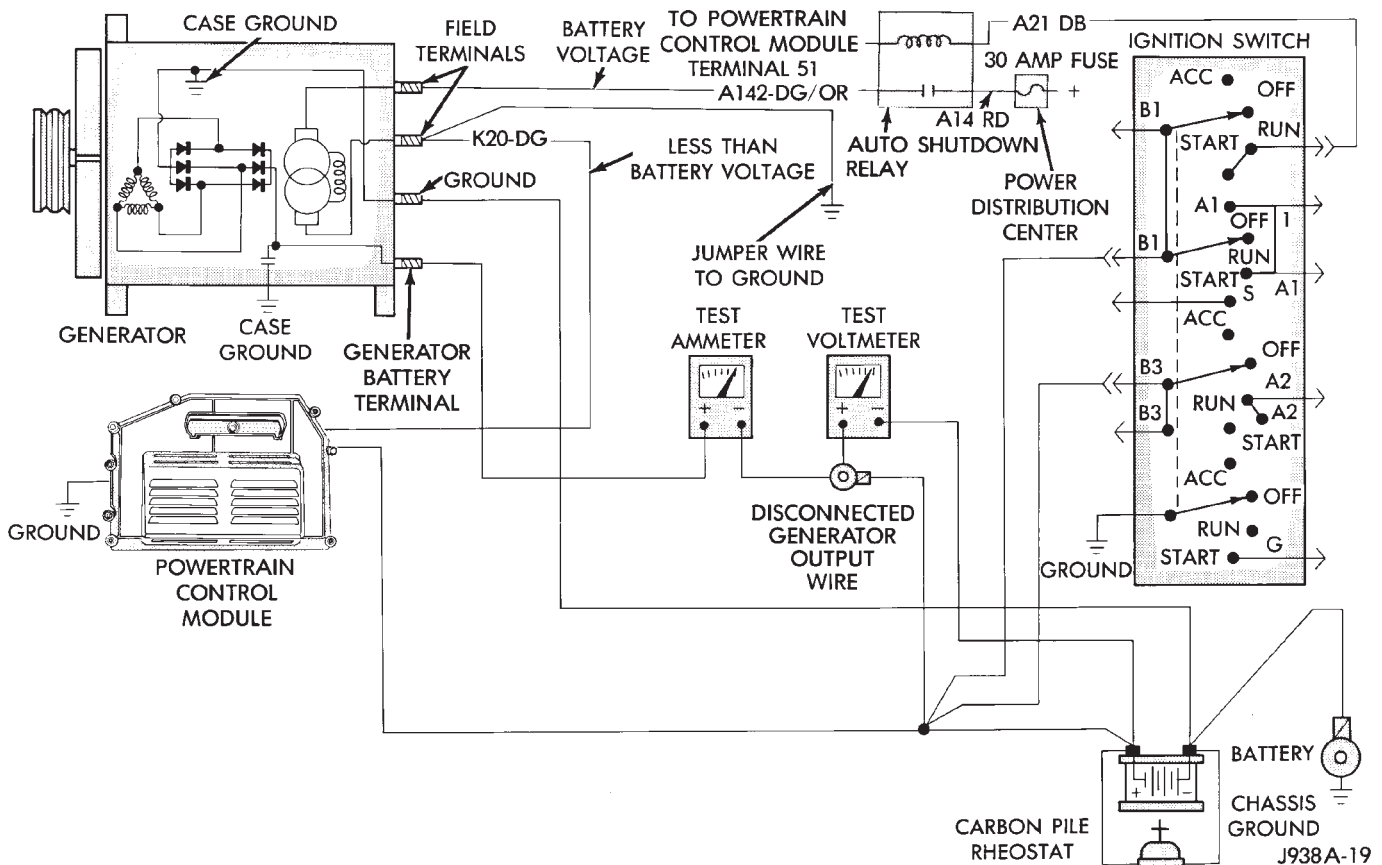

Fig. 2 Generator Output Wire Resistance Test (Typical)
(5) Connect a 0-150 ampere scale D.C. ammeter in series between generator battery terminal and disconnected generator output wire (Fig. 2). Connect positive lead to generator battery terminal and negative lead to disconnected generator output wire.
(6) Connect positive lead of a test voltmeter (range 0-18 volts minimum) to disconnected generator output wire. Connect negative lead of test voltmeter to battery positive cable at positive post.
(7) Connect one end of a jumper wire to ground and with other end probe green K20 lead wire at back of generator (Fig. 2). This will generate a DTC.